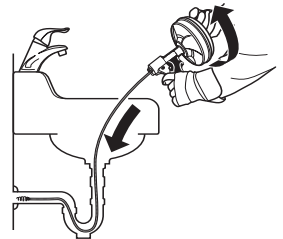

Figure 6
2. Turning drum clockwise advances cable. Counter-clockwise retracts cable. Advance cable until you encounter the blockage (Figure 6).